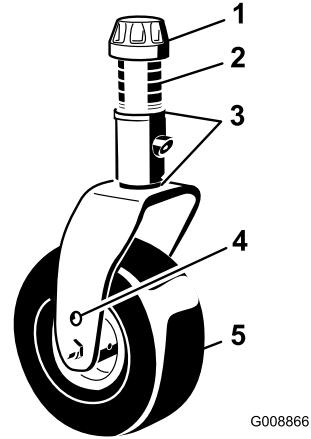

Figure 28
3. Remove the tensioning cap from the castor spindle shaft (Figure 28) and slide the castor shaft out of the castor arm. Put 2 shims (1/8 inch [3 mm]) onto the shaft as originally installed. Slide the appropriate number of 1/2 inch spacers onto the shaft to get the desired height-of-cut.